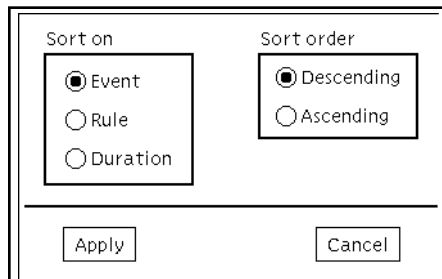

FIGURE 3-25 Sort . . . Dialog Window from the View Menu
- **Sort . . .** —Brings up a dialog window that allows you to select the item to sort on such as Event, Rule, Duration, and the Ascending or Descending sort order (see FIGURE 3-25.)